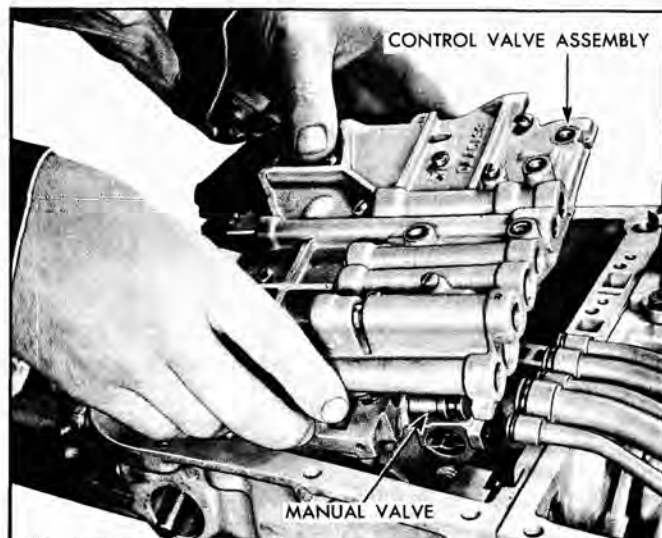

Fig. 42 Removing Control Valve Body
12. Remove five (5) control valve assembly attaching bolts and carefully remove control valve assembly from the pipes and rear bearing retainer being careful not to drop the manual valve (Fig. 42).